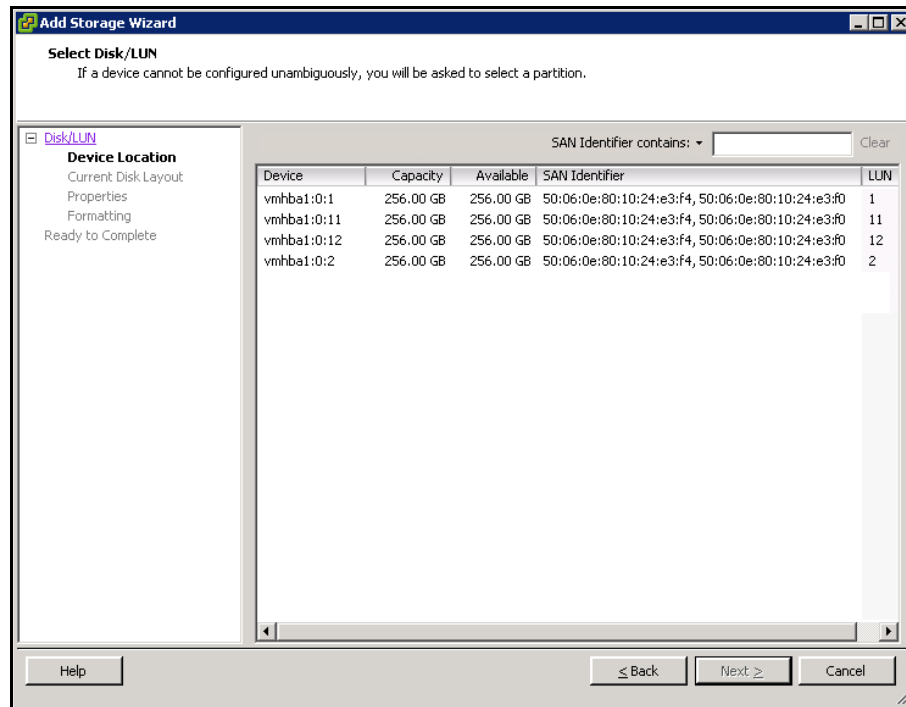

Figure 4-18: Select Disk/LUN Screen (Add Storage Wizard)
16. Under **Storage Type**, select **Disk/LUN** (if it is not already selected, then click **Next**). The Select Disk /LUN screen appears (Figure 4-18).